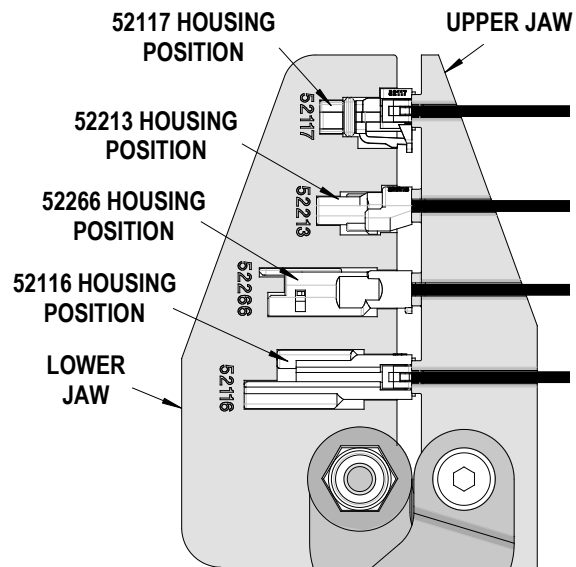

Figure 5
Note: There is only one way these assemblies load into the lower jaw of the tool. Make sure they are in the correct position. The housing series numbers are marked on the front of the tool. See Figure 5.
4. When placing the housing assembly into the lower jaw the wires should be seated into the slot adjacent to the housing pocket in the upper jaw. See Figure 5.